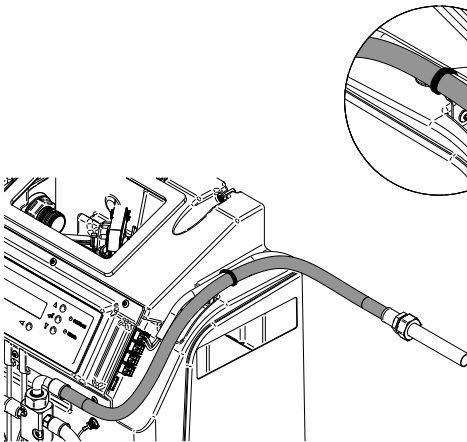

Fig. 10
6. The flexible hose and any wiring can be retained in the desired position using cable ties and the two metal cable retention points on the top left and right of the unit tank. See Figs. 10 & 11.